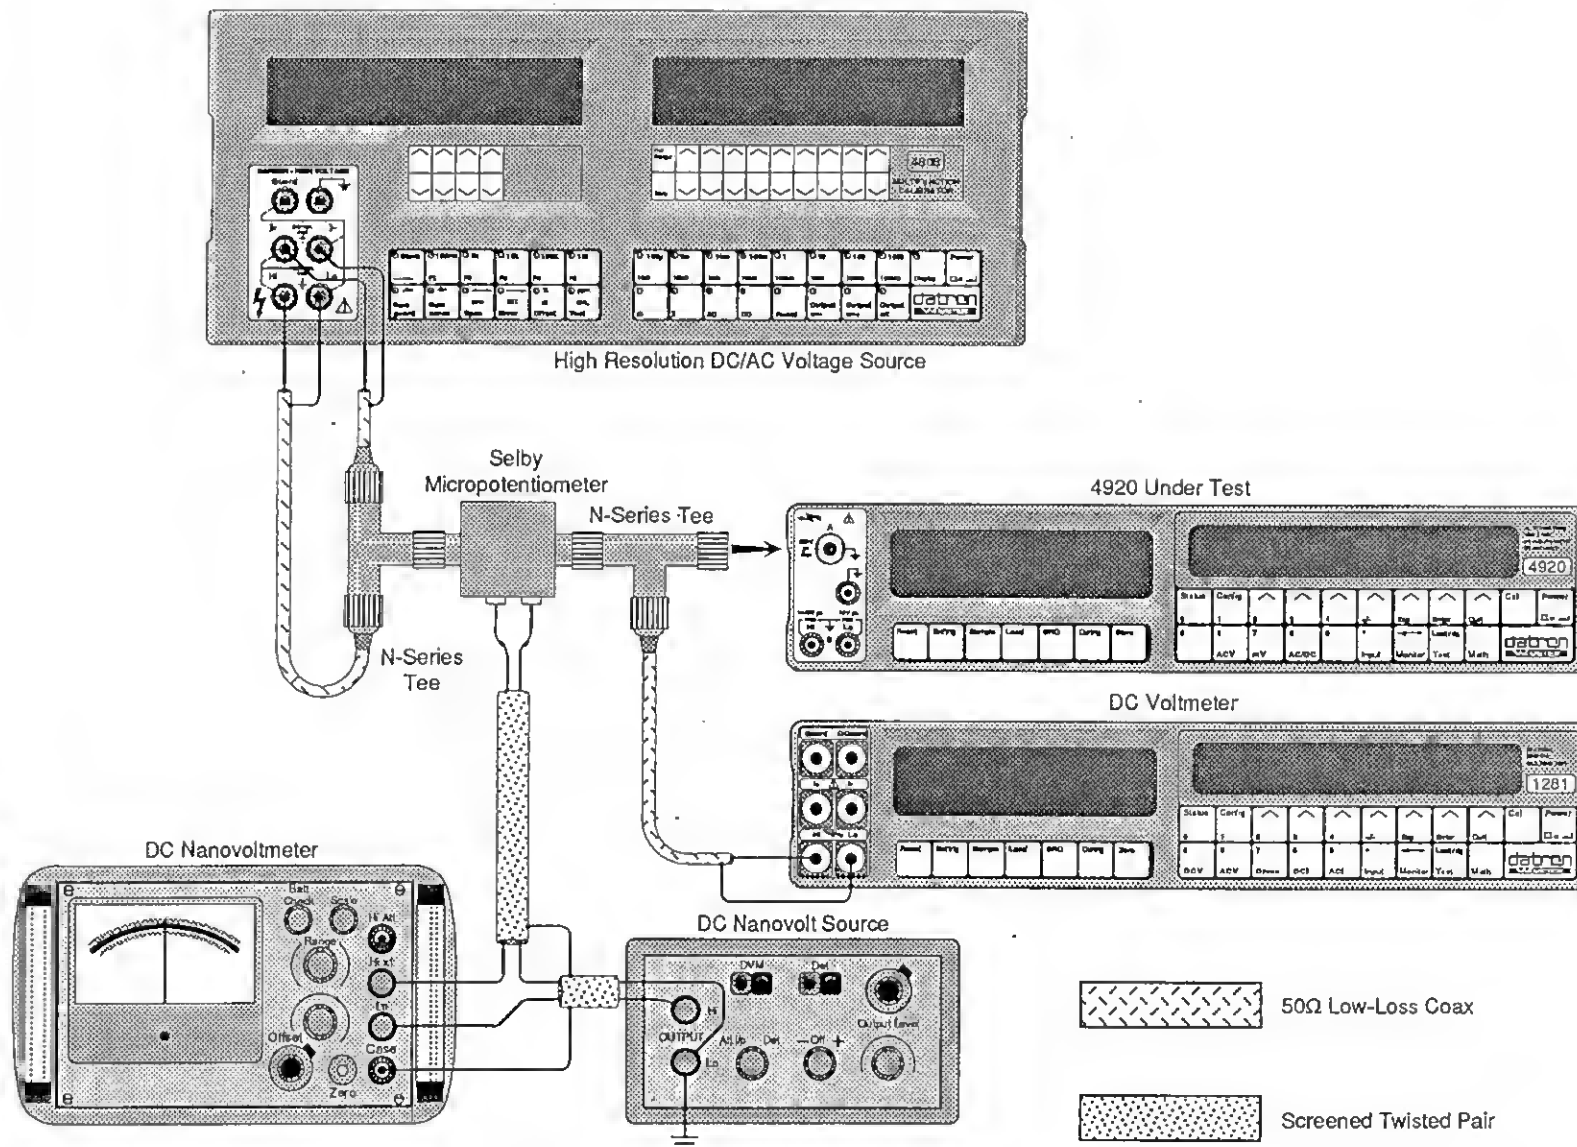

FIG. 8.1 ACV 100mV CALIBRATION - INTERCONNECTIONS
2. Connect the high resolution DC voltage source (DC calibrator) into the calibration setup as shown in Figure 8.1. On a Datron DC calibrator set 100mV on the 1V output range to ensure that an active (low impedance) DC source is used. Select the 4920's ACV 0.3V range.